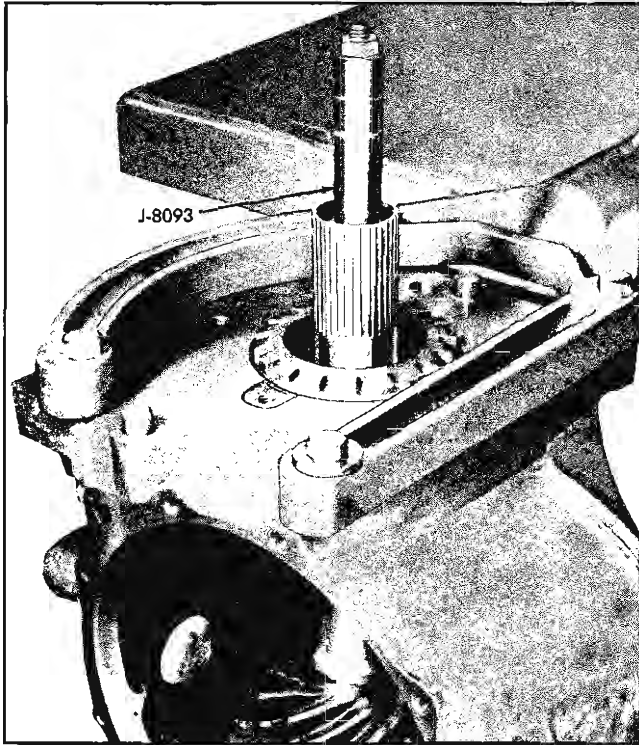

Fig. 4-60 J-8362 Installed in Pinion Shaft
17. Install J-8903 inside pinion shaft and tighten nut (Fig. 4-60). Adjust pinion bearing preload to